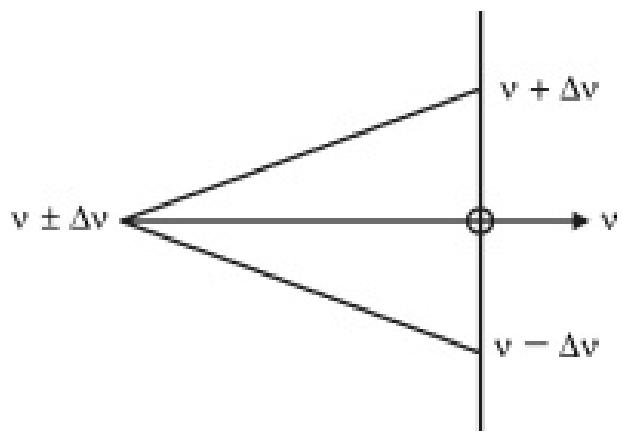

Fig. 7.6.1
- As shown in Fig. 7.6.1 if there is a beam of charged particles with velocity $v \pm \Delta v$ (i.e. mixed velocities to same extent) then particles will be filtered for $v + \Delta v$ and $v - \Delta v$ as the given values of E and B are such that only those charges with velocity 'v' will be able to go on straight path (selection) where as $v + \Delta v$ will experience higher F_E hence it will go above straight path and $v - \Delta v$ will experience higher F_m hence it will go below straight path (filtration).